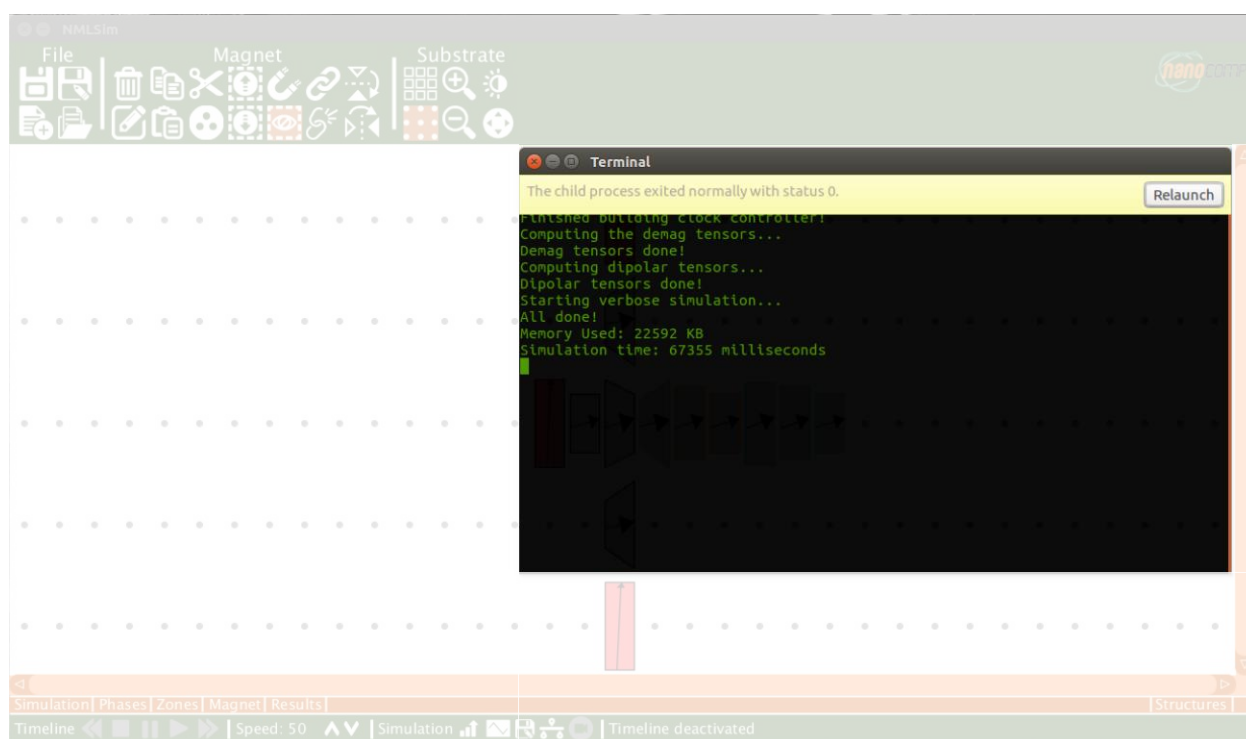

Figure 19. Simulation being performed in a gnu-terminal, highlighted in figure.
- **Simulate:** performs engine simulation. For that purpose, it opens a gnu-terminal (Figure 19). When the terminal closes, the simulation is done.